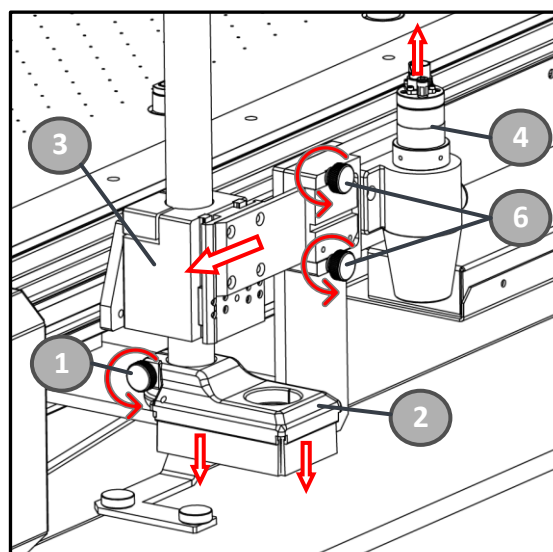

Figure 5-38
Warning: The suction hood (2) must be positioned facing outward from the machine when not in use Figure 5-38 to avoid collisions with the moving parts of the machine.